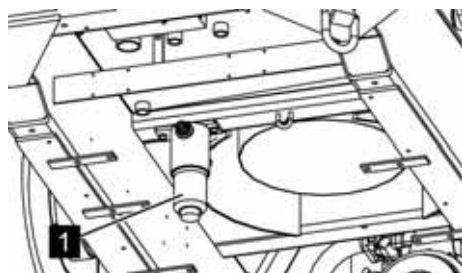

Fig. 145: Unscrewing the filter bowl
5. ➤ Carefully unscrew the filter bowl (Fig. 145/1).